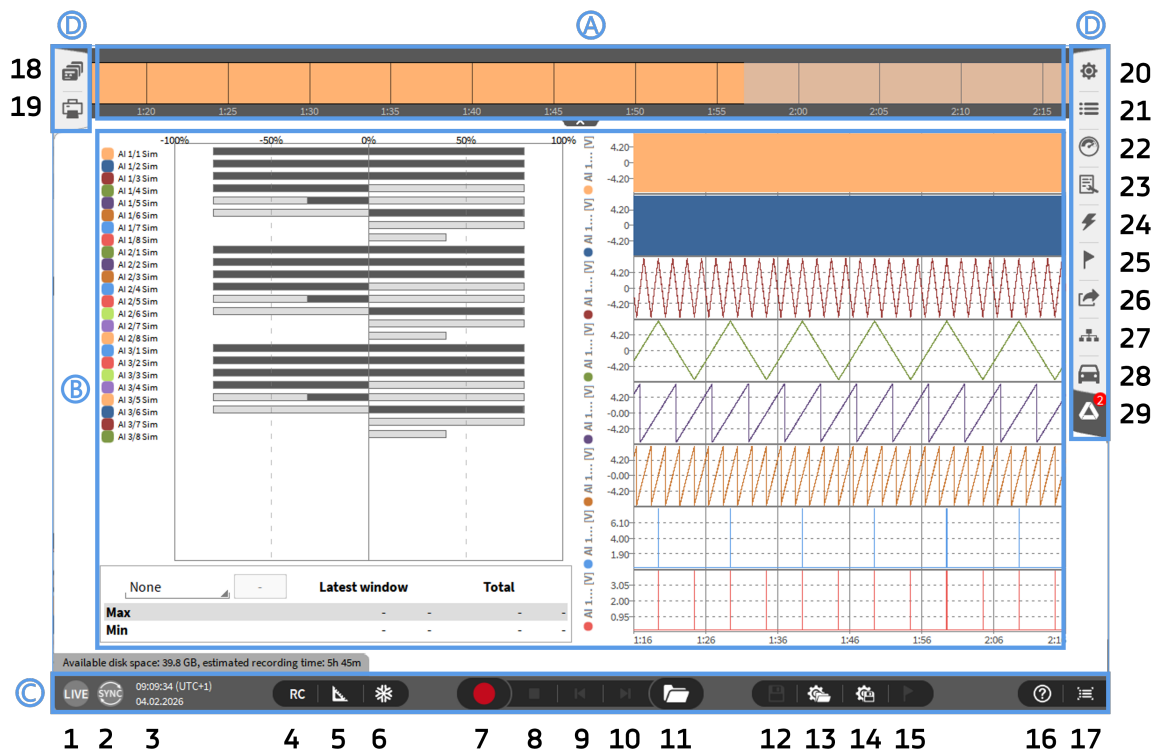

Fig. 3.5: Software overview
The saturation meter (*Saturation meter*) as well as a chart recorder instrument (see *Recorder*), displaying the first 8 analogue input channels, is part of the OXYGEN default measurement screen (see Fig. 3.5).
Shows the current software indicator mode. OXYGEN has three different Operating Modes: *LIVE*, *REC* and *PLAY*. The actual software mode is displayed in the Action bar (see ① in Fig. 3.5). The properties of the different modes are explained in the following section: